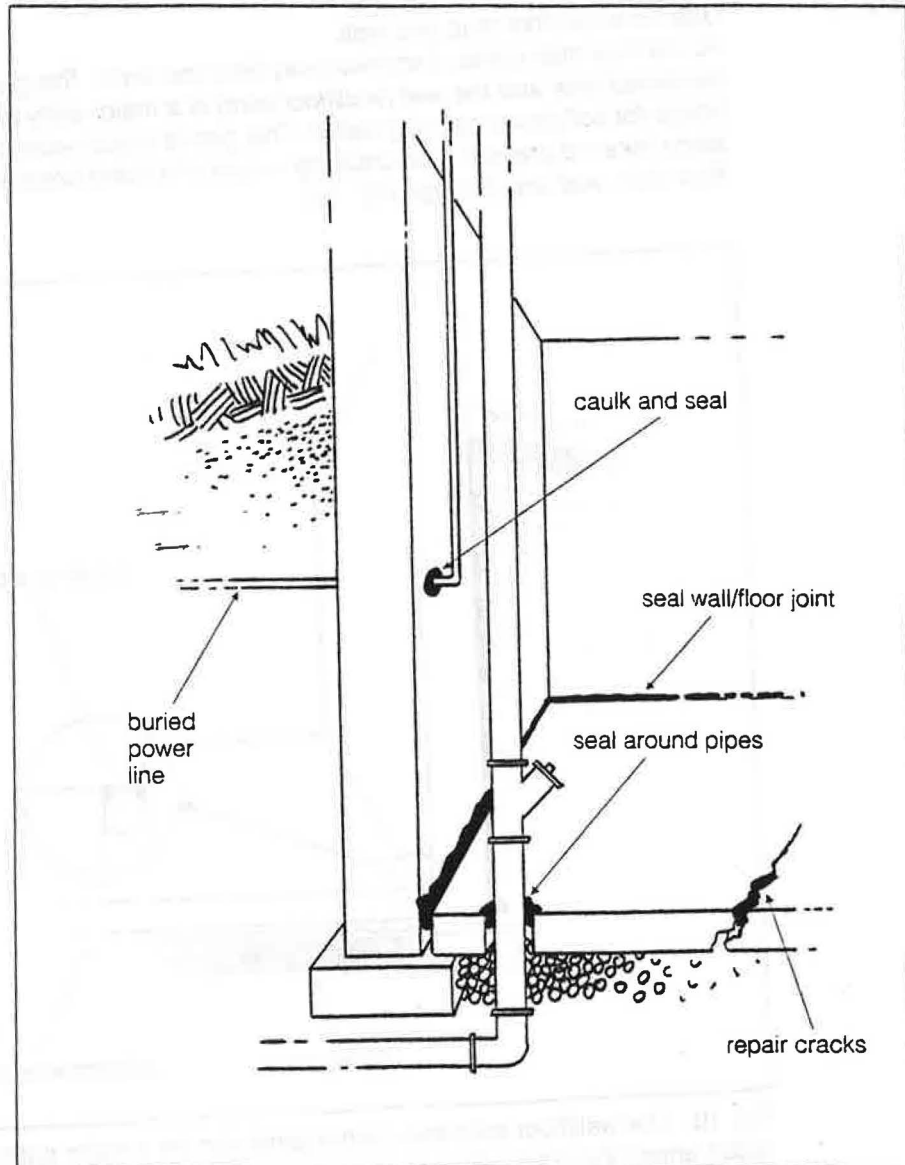

Fig. 11. Systems for excluding radon will be more efficient if all entrances into the house from the soil are properly caulked and sealed.
- fill the gap with caulk to produce a high grade seal. In most cases a water-resistant polyurethane or elastomeric caulking material will work best. Fit a foam backer rod in the opening first to control the caulking depth and provide a base to tool against. This is illustrated in fig. 11.